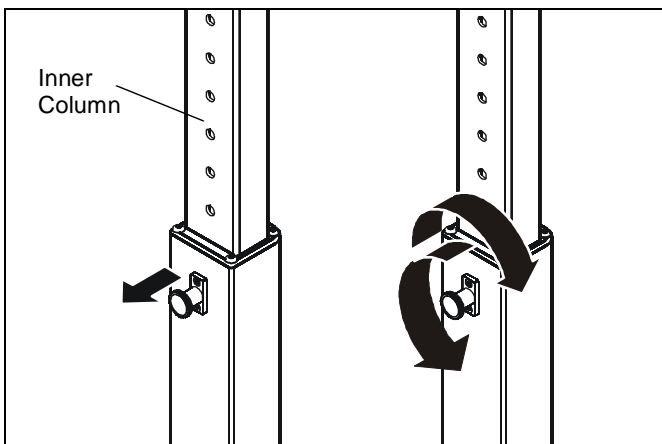

Figure 5
1. Lift up on the inner column of center post. (See Figure 5)
2. Pull out knob on the center post and turn 90° in either direction to disengage the locking mechanism. (See Figure 5)